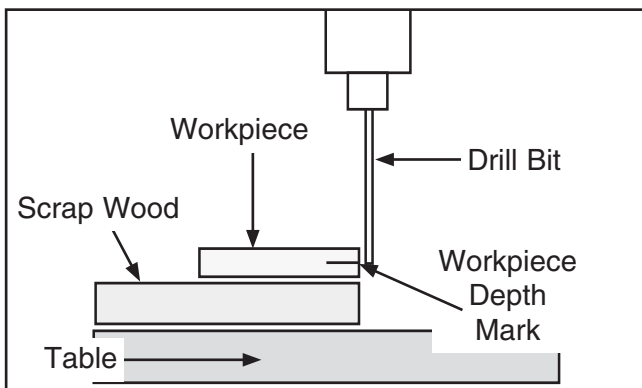

Figure 19. Depth stop mark on workpiece.
3. Mark the side of your workpiece at the intended cutting depth (see **Figure 19**).